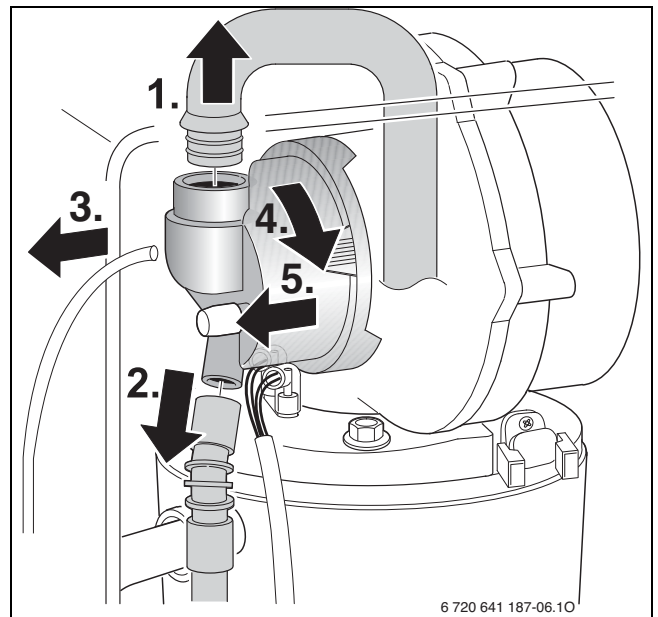

Fig. 67 Removing the mixer unit
2. Disconnect gas pipe from mixer unit, → Fig. 67.